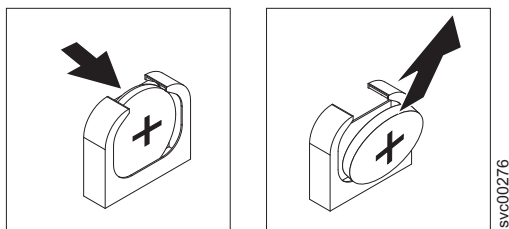

Figure 130. SAN Volume Controller 2145-DH8 CMOS battery holder
- b. Use your thumb and index finger to lift the battery from the socket, as shown in Figure 130 on page 154.